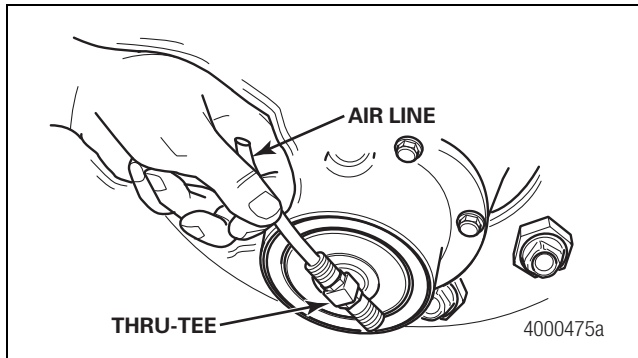

Figure 3.4
5. Check all of the male hose connections at the thru-tee assemblies by pushing a short piece of tire inflation system air line into the fitting. Air should flow from the male hose connection. Figure 3.4.